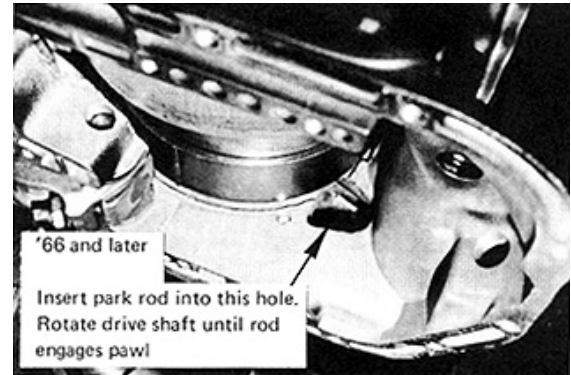

FIGURE 25
STEP 28. Guide the valve body up into the transmission. '66 and later models: Insert the park rod into the hole in the rear of the case and rotate drive shaft until the rod engages the pawl. (See Fig. 25.) Align valve body with case and install valve body against case. (Be careful not to damage neutral safety switch. A small screwdriver can be used to retract the switch